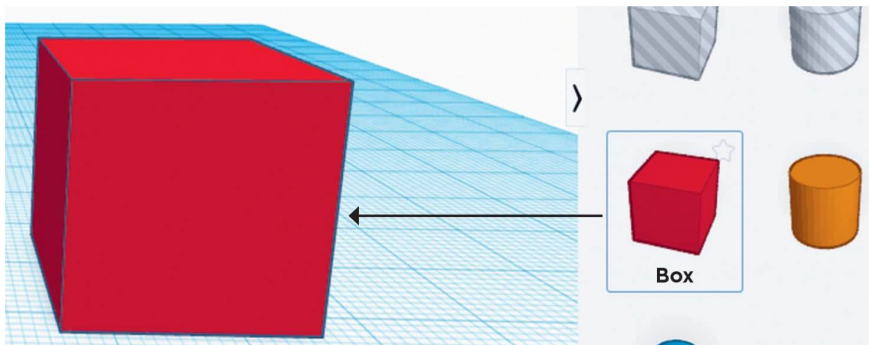

FIG. 2: Selecting a red cube from the menu.
2. Using the CAD software Tinkercad, create a cube with 20 mm sides by dragging and dropping a red box on the workplane from the **Basic Shapes** menu (fig. 2).